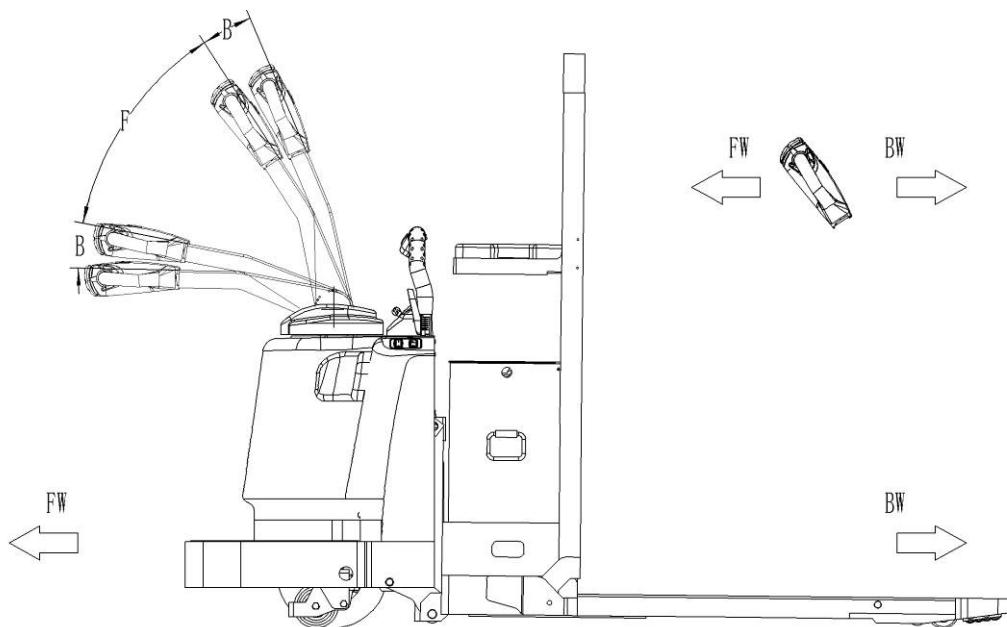

Fig. 13: Operating direction
After starting the truck by turning on the key switch (4), move the tiller to the operating zone ('F', fig.13). Turn the accelerator button to the desired direction forward 'Fw.' or backwards Bw.'(fig. 13).